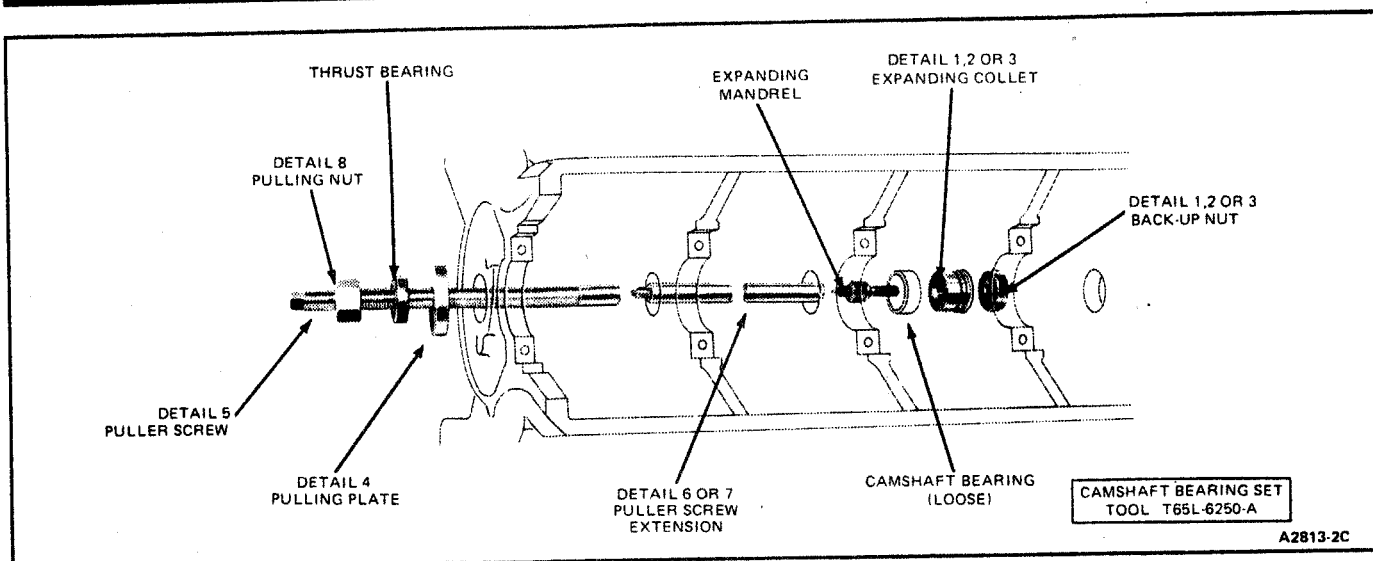

FIG. 68 Camshaft Bearing Replacement
3. Using Tool T65L-6250-A, select proper size expanding collet and backup nut and assemble on expanding mandrel. With expanding collet collapsed, install collet assembly in camshaft bearing, and tighten back-up nut on expanding mandrel until collet fits camshaft bearing (Fig. 68).
1. Position new bearings at bearing bores with oil holes aligned, and press in place with Tool (T65L-6250-A or equivalent) shown in Fig. 68. Be sure to center pulling plate and puller screw to avoid damage to bearing. **Failure to use correct expanding collet can cause severe bearing damage. Be sure front bearing is installed the specified distance below front face of cylinder block.**